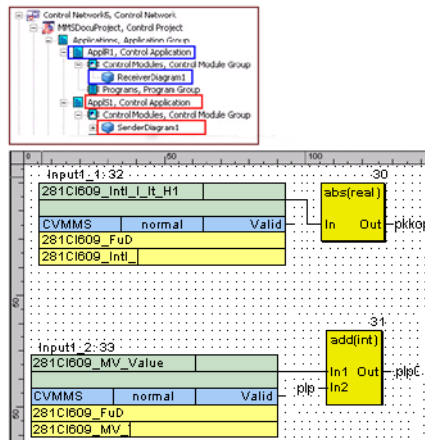

Figure 102. Diagram Variables with Cross Communication Field
3. Allocate each diagram to a different Application (see Figure 102).